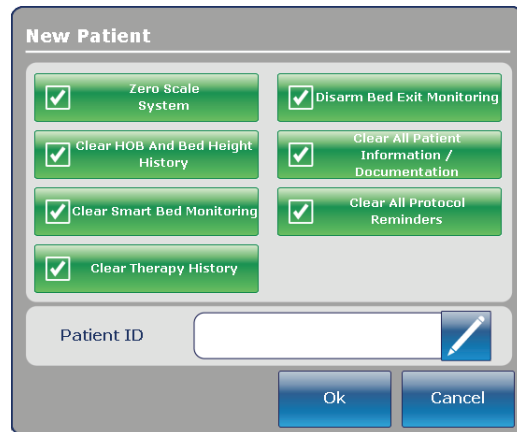

Figure 20: New patient
1. Tap the pencil (Figure 20 on page 40).
**Display Patient ID:** Displays the Patient ID. You can enter the Patient ID on the **New Patient** screen (Figure 20 on page 40).